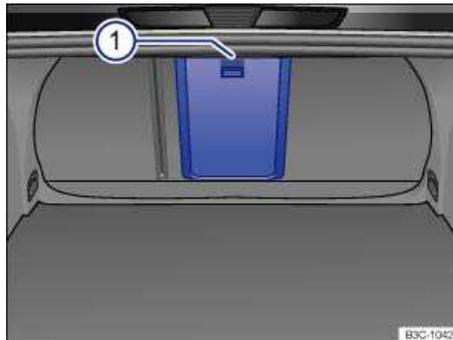

Fig. 103 In luggage compartment: Release lever with marking 1.
- Fold the pass-through cover back until it engages securely. The red marking on the luggage compartment side ⇒ fig. 103 \(1\) should not be visible.